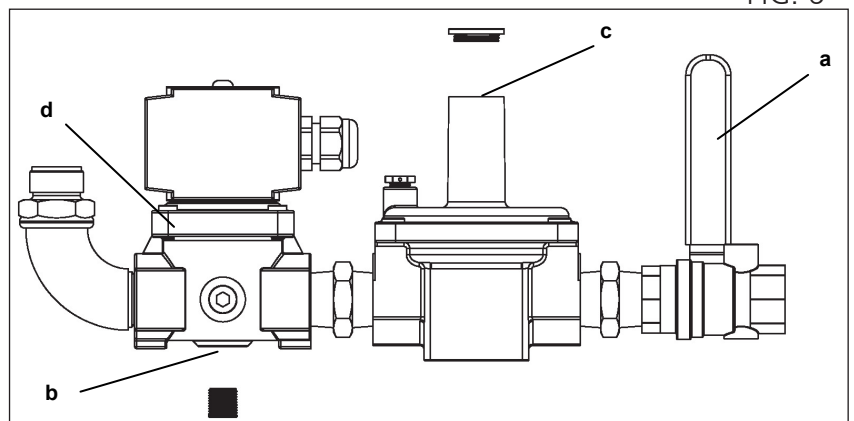

FIG. 6
- Connect a gauge to the pressure intake (1) upstream and a second gauge to the pressure intake downstream (2) of the valve group;
- Start the heater and take the reading off the 1st supply pressure gauge and if necessary adjust the pressure regulator (#3 FIG. 6) for the gas supply system until the correct supply pressure shown in SPECIFICATIONS is reached.